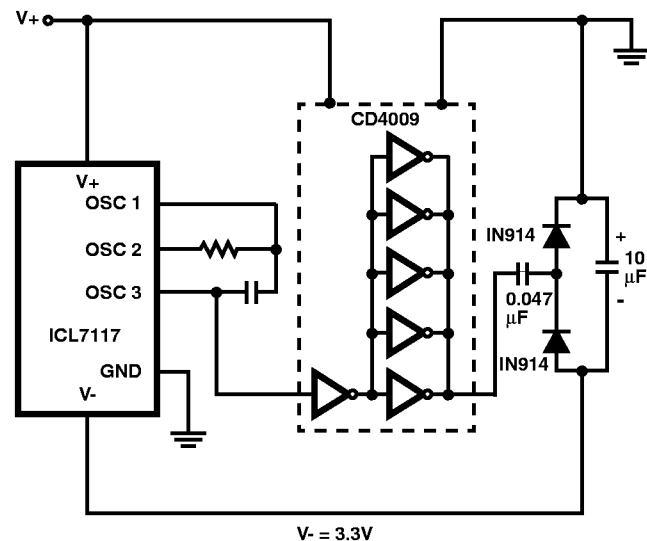

FIGURE 10. GENERATING NEGATIVE SUPPLY FROM +5V
- The ICL7117 is designed to work from  $\pm$ 5V supplies. However, if a negative supply is not available, it can be generated from the clock output with 2 diodes, 2 capacitors, and an inexpensive IC. Figure 10 shows this application. See ICL7660 data sheet for an alternative.